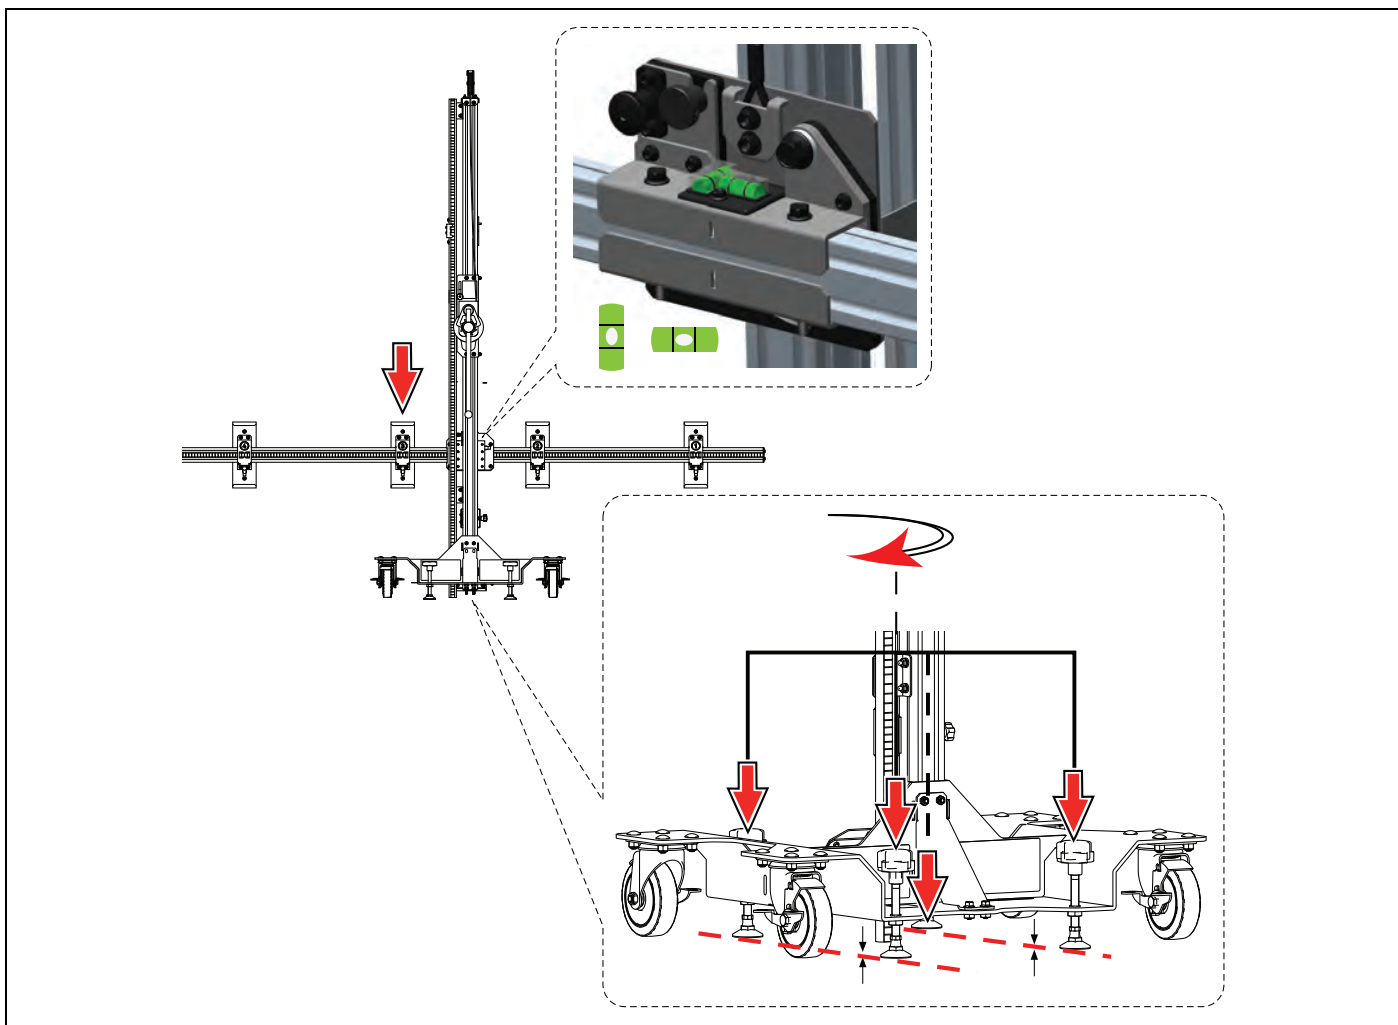

Figure 4-15
- Without moving the TS100 target stand, lower the target cross beam (using the clutch brake height adjuster) to the lowest position (Figure 4-15).
- Lower the leveling feet to raise the fixture off the casters, then adjust the leveling feet to level the cross beam (Figure 4-15). A spirit level is located on top of the cross beam.